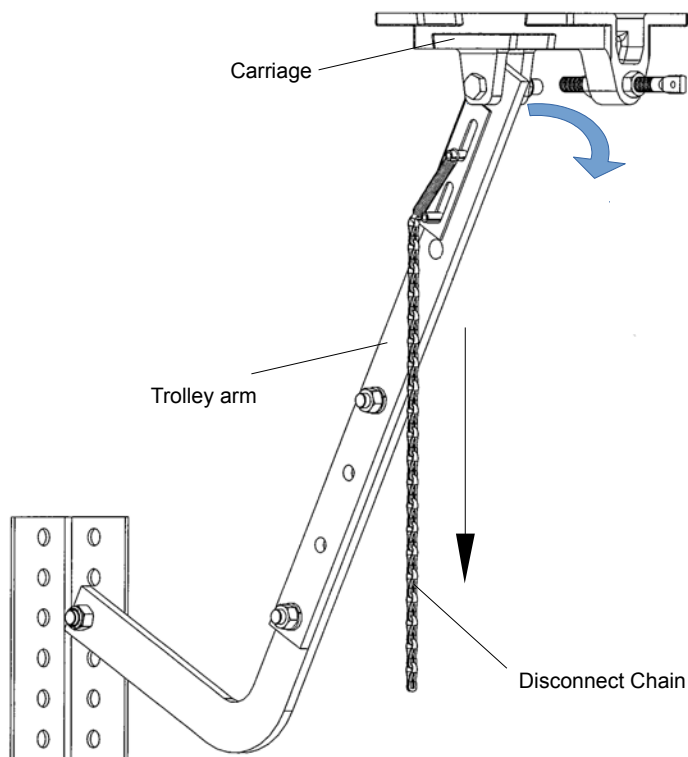

Figure 5 - Disconnect Trolley Arm From Carriage
1. Pull disconnect chain downwards, refer to Figure 5.
2. Disconnect trolley arm from carriage, refer to Figure 5.